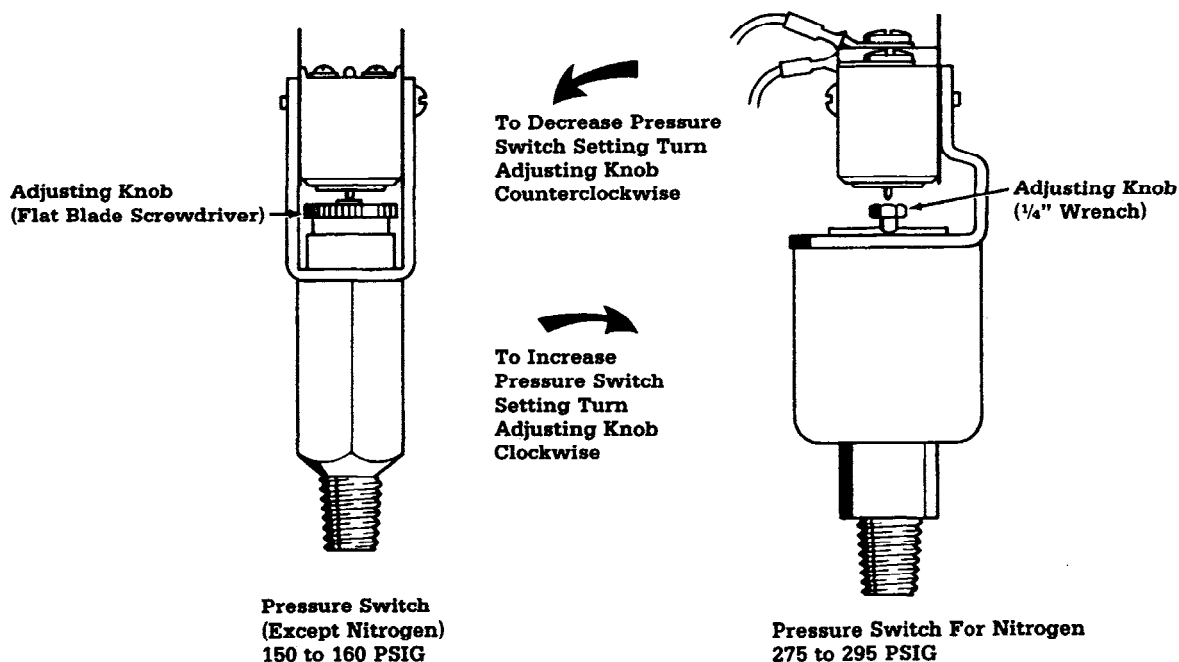

Figure 3-3
(Figure 3-3)
2. Turn the adjusting nut of the pressure switch (see Figure 3-3) until the red light turns off - green light on. To raise pressure switch setting, turn adjusting nut counterclockwise. To lower pressure switch setting, turn adjusting nut clockwise.